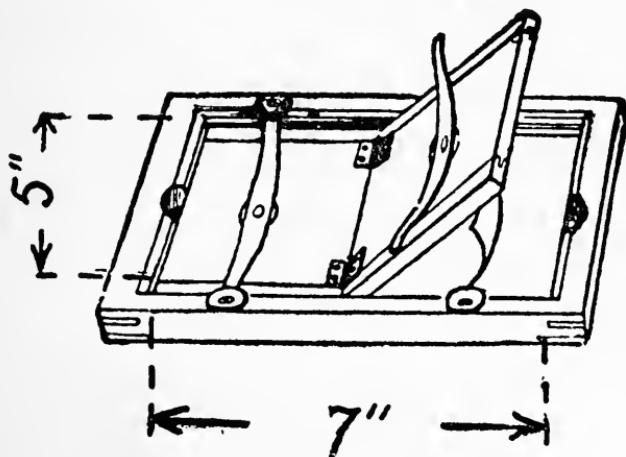

FIG. 55. A PHOTO PRINTING FRAME
The Materials Required.—Buy, or you can make, (1) a 5×7 *printing frame* as shown in Fig. 55 and get a sheet of clear glass to fit it, and (2) a couple of dozen sheets of 5×7 *blue-paper*⁴¹ which you can buy at any photographic supply house.